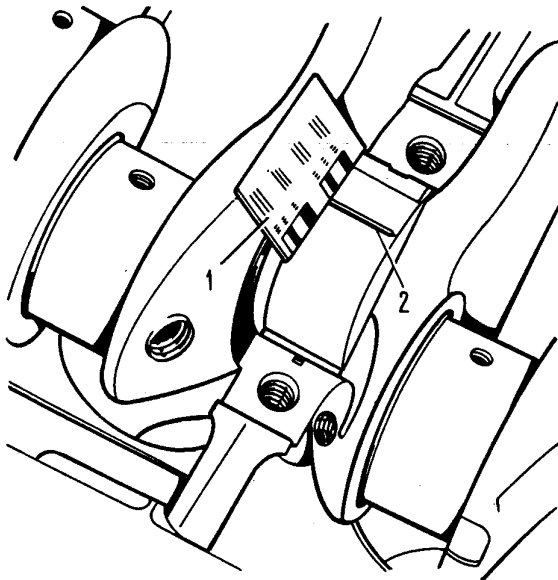

Fig. 2-37. Measuring Clearance with Scale:
- remove the caps, find the amount of flattening of the calibrated wire against the scale provided on its packing (Fig. 2-37), thus determining the clearance.